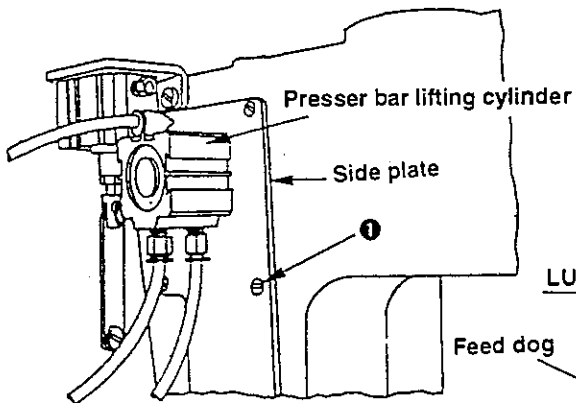

Fig. 4
<p>1. Set the stitch dial to "0" on the scale.</p> <p>2. Loosen attaching screws ❶ in the side plate. (Fig. 4)</p> <p>3. Remove the side plate. (Fig. 4)</p> <p>4. Loosen clamping screw ❷ in the needle bar connecting rod. (Fig. 5)</p> <p>5. Bring the needle bar to the lowest position of its stroke.</p> <p>6. Align the center of the needle with the center of the slot in the throat plate.</p> <p>7. Tighten screw ❷ in the needle bar connecting rod.</p> <p>(Caution) Tighten the screw with a tightening torque of 80 to 90 kgf.cm.</p> <p>8. Attach the side plate in place.</p> <p>(Caution) The feed amount of the needle is mechanically larger than the feed amount of the feed dog by 5%.</p>	<p>☆ If the needle entry is adjusted too close to the operator : The needle may interfere with the feed dog, resulting in needle breakage.</p> <p>☆ If the needle entry is adjusted too far from the operator When the needle comes out of the slot in the throat plate, the needle may interfere with the feed dog, resulting in thread breakage. The needle may come in contact with the feed dog during the reverse feed stitching, resulting in needle breakage.</p> <p>7' At this time, move the needle bar connecting rod to the right or left until the needle bar connecting rod is positioned approximately at the center of the play. If the needle bar connecting rod is not correctly positioned, an excessive torque may result.</p> <p>For the sewing machine equipped with an auto-lifter, attach the side plate following the steps of procedure described below.</p> <p>8. Raise the presser bar lifting lever.</p> <p>9. Put hinge screw ❸ of the presser bar lifting cylinder in the forked section of the presser lifting lever.</p> <p>10. Confirm that the bottom face of the knee lifter arm A is engaged with the presser lifting lever.</p> <p>11. Attach the side plate in place.</p>